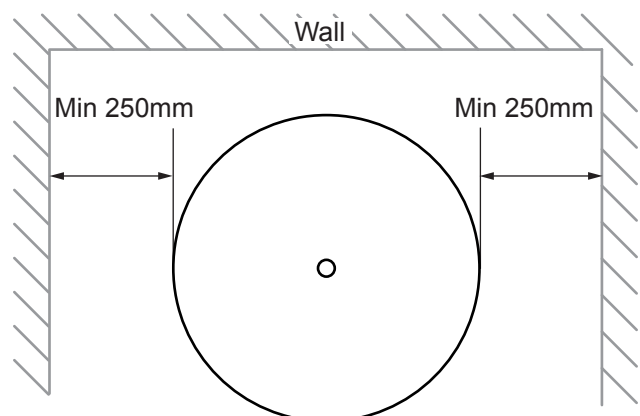

Figure 5: Siting the unit
- ▶ Access to associated controls and immersion heaters must be available for the servicing and maintenance of the system. Where these controls are installed against a wall a minimum distance of 250mm must be left (see Fig. 5 below).